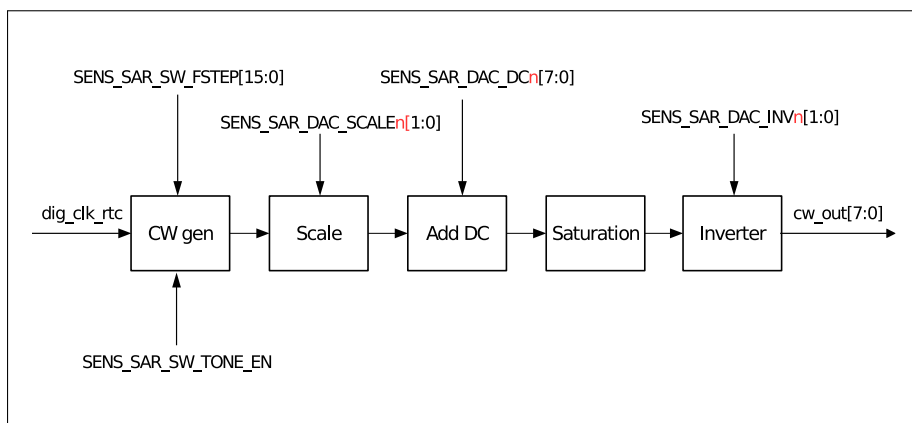

Figure 29-10. Cosine Waveform (CW) Generator
The cosine waveform (CW) generator can be used to generate a cosine / sine tone. A diagram showing cosine waveform generator's function is presented in Figure 29-10.